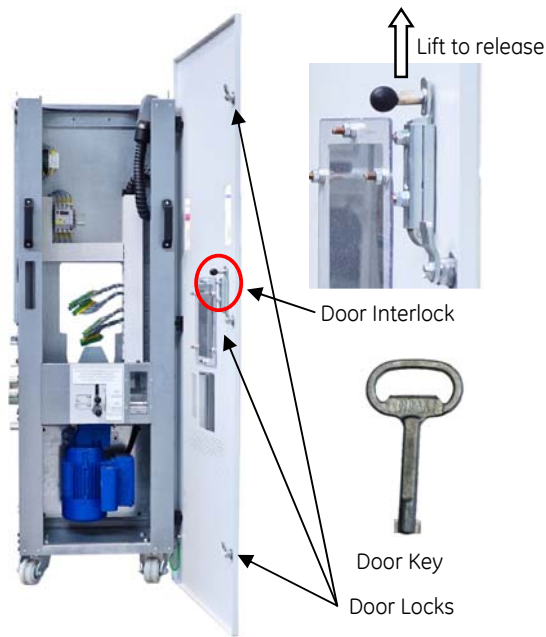

Fig. 72-3 Door locks positions
NOTE: Use the Door Key to open all Door Locks and release Door Interlock. See Fig. 72-3.
2. TEST position - Primary Disconnect open and separated by a safe distance with shutters closed. The Secondary Disconnect is in full contact. The Trolley is withdrawn ~4 inches and locked by Position Interlock. See Fig. 72-3.
3. DISCONNECTED position - Primary Disconnects open and separated by a safe distance with shutters closed. Secondary Disconnect is open. Trolley is withdrawn ~5 inches. See Fig. 72-3.